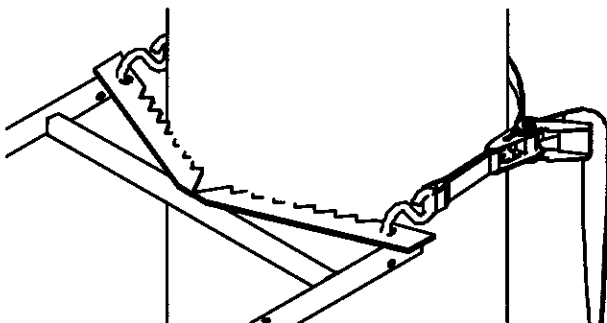

Figure 5a: Applies to RE607
4. Standing on ladder step, lean toward tree with ratchet strap now in hand, hook "S" hook with long strap through hole provided on tree blade. Feed the long strap through the center (slot) of ratcheting mechanism and back around through tightening lever. **SEE FIGURES 5a/5b AND 6.**
Wrap entire ratchet assembly around tree and hook other "S" hook through opposite tree blade hole. Pull tail of long strap until most of the slack is taken out. Be sure entire strap is even and at the same level all around tree. "Ratchet" tight to tree, this will securely attach ladder to tree and prevent movement. **SEE FIGURES 5a, 5b, AND 7.**